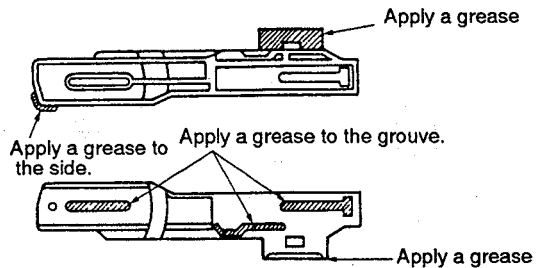

Fig. 12
③ Install the cam gear in the position where projection E of the cam gear comes to the front of the follow gear installation shaft..
① Grease the spring slanting cam. (Fig. 12)